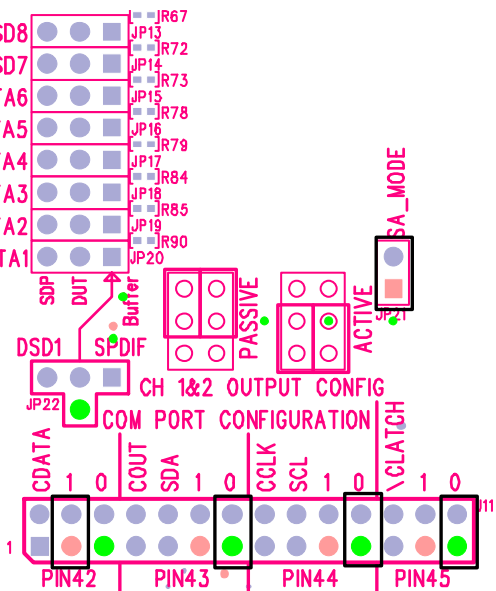

Figure 2. SA\_MODE—Slave,  $256 \times f_s$ , CM = 2.25 V, I2S
The ADAU1962/ADAU1966 have a standalone mode that allows the user to choose between a limited number of operation modes without the need for a control interface. Applying a jumper across JP21, as shown in Figure 2, pulls SA\_MODE (Pin 46) high, enabling the standalone mode in the ADAU1962/ADAU1966. The SA\_MODE selections are listed in Table 1.
The ADAU1962/ADAU1966 evaluation board arrives configured for S/PDIF input. The S/PDIF receiver operates as a clock master, putting out an I2S stream at  $256 \times f_s$ . For a quick startup, the ADAU1962/ADAU1966 are in standalone mode with the settings shown in Figure 2. Pin 42 is pulled high (1) and Pin 43 to Pin 45 are pulled low (0). According to Table 1, this puts the ADAU1962/ADAU1966 in slave mode, running at  $256 \times f_s$ , while common mode (CM) is set to 2.25 V and the audio serial port is in I2S mode. Notice in Figure 2 that the jumper for Pin 42 is assigned to 1 and that the other pins are assigned to 0.